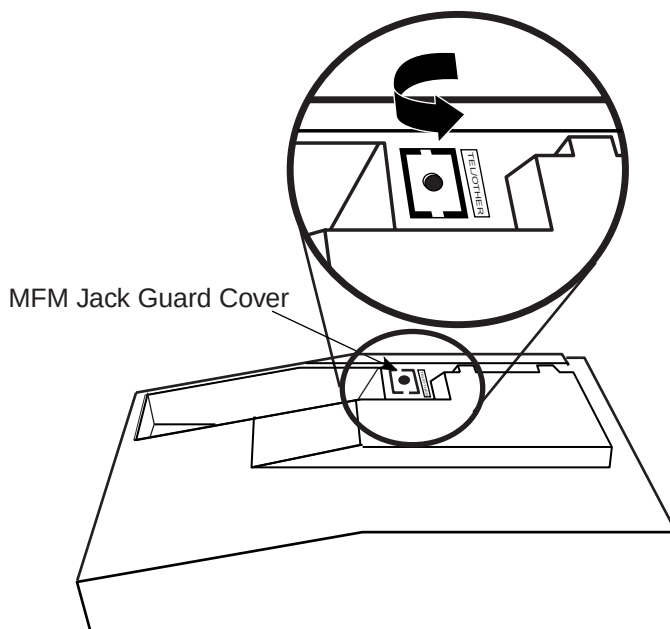

Figure 3-11. Removing the Jack Guard
- **7. To remove the jack guard, see Figure 3-11.**